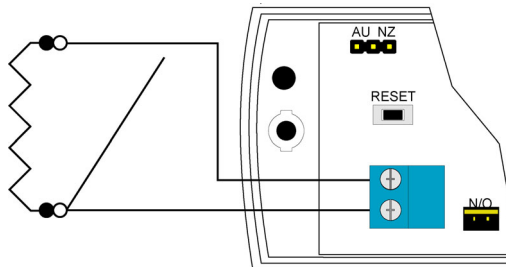

Figure 3 Wired for N/O operation
1. Wire the 2.21K ohm resistor in parallel with the N/O contact per Figure 3. The distance from the external contact to the EH1115EOL must not exceed 3 feet.